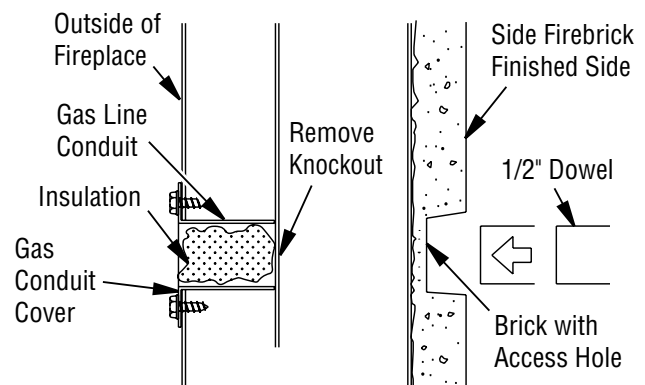

Figure 37 - Gas Line Access
1. Remove knockout indentation on refractory or firebrick wall located above refractory hearth floor. Knockout indentation must be firmly tapped with any solid object such as a 1/2" dowel until it is released. Remove fragmented portions of refractory (see Figure 37).